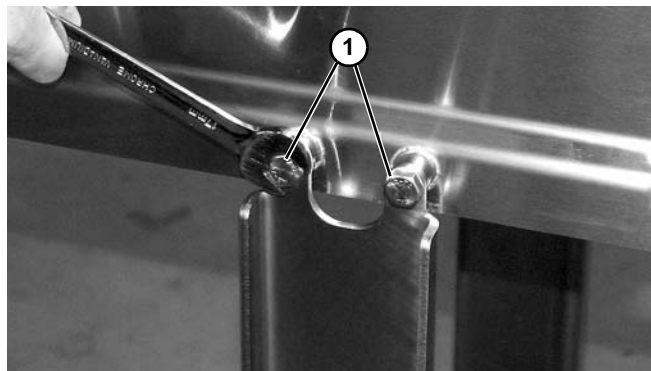

Figure 27
2. Remove two screws (**Figure 27, item 1**) securing the stand brackets from one side of the conveyor.